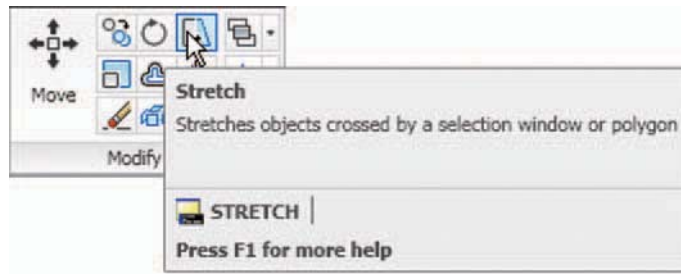

Fig. 5.33 The **Stretch** tool icon from the **Home/Modify** panel
2. Call the **Stretch** tool – either *click* on its tool icon in the **Home/Modify** panel (Fig. 5.33), *left-click* on its tool icon in the **Modify** toolbar, *pick* its name in the **Modify** drop-down menu, or *enter s* or **stretch** at the command line, which shows:
1. When circles are windowed with the crossing window no stretching can take place. This is why, in the case of the first example in Fig. 5.33, when the **second point of displacement** was *picked*, there was no result – the outline did not stretch.